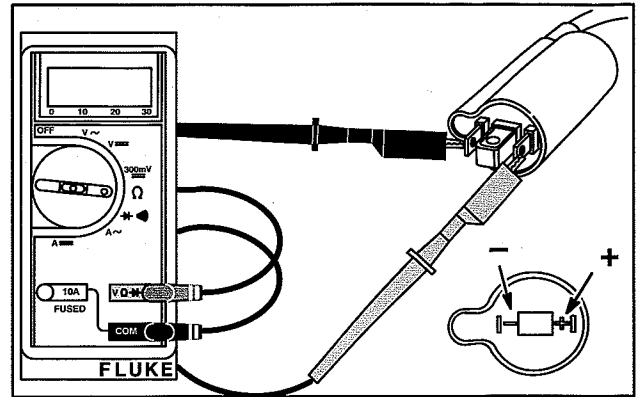

Fig. 7 – Testing Ignition Coil Primary
1. Check coil primary resistance between + and - terminals as shown in Fig. 7.